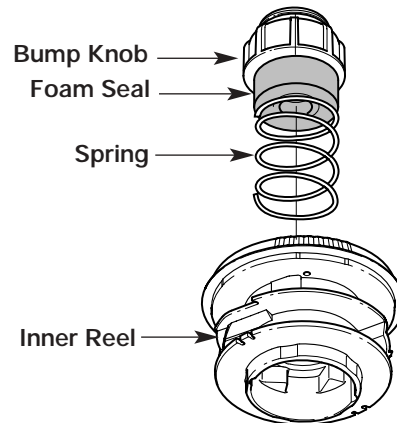

Fig. 20
1. Turn the bump knob counterclockwise and remove the bump knob, spring and foam seal (Fig. 20).
2. Pull out the bump knob, spring and foam seal (Fig. 20).
7. Place the bump knob, spring and foam seal into the inner reel (Fig. 20).